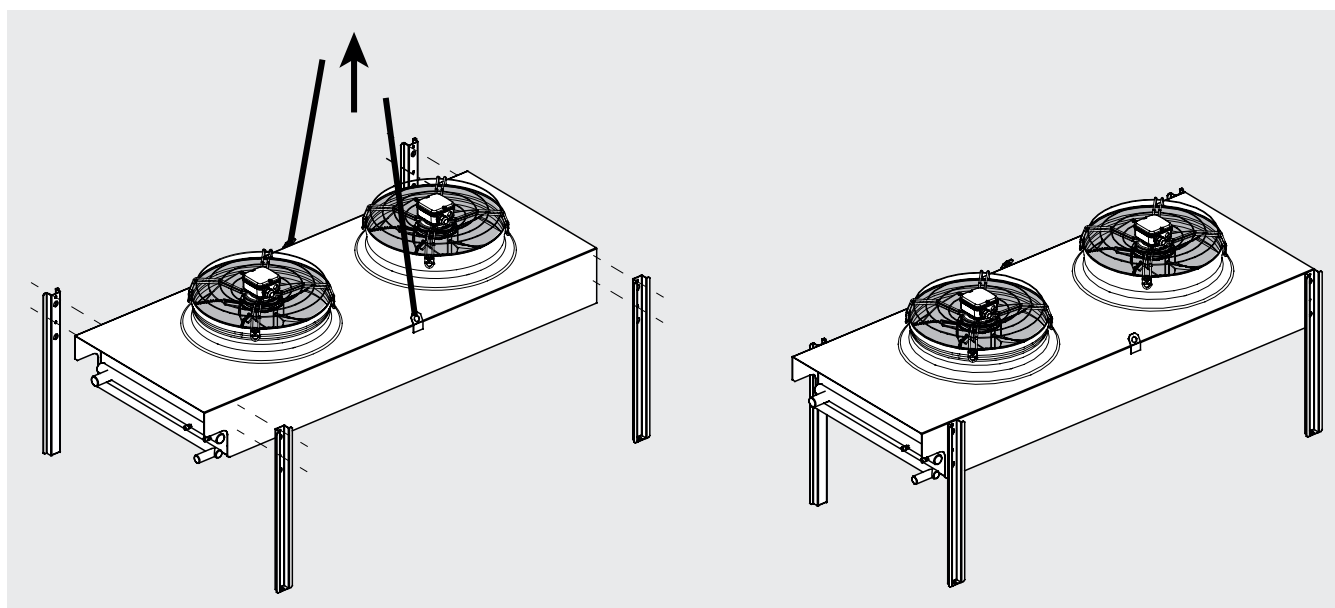

Figure 4
- 6.5 Standard models are supplied with brackets for horizontal airflow installation. Vertical airflow installation is possible by assembling the dedicated optional kit; refer to Figure 4.